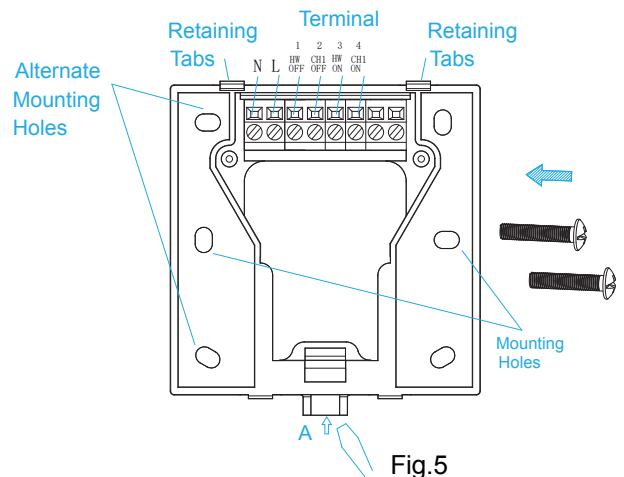

Fig.5
1. Remove the mounting plate from the unit by prying off the mounting plate in position A (as showing in Fig. 5) with a screwdriver, and pivoting the bottom of the unit outwards. The CHPPR2 body can then be lifted off.